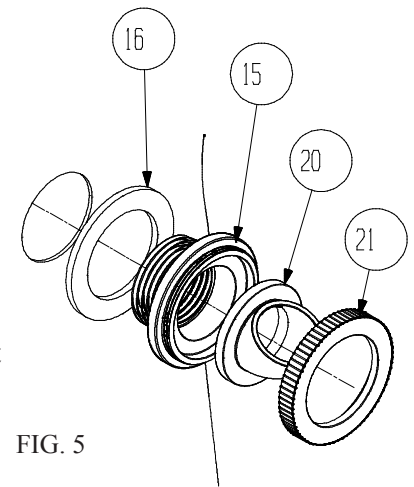

FIG. 5
1. **DIVERTER FITTING USE;** diverts direction of return water entering the pool, see part #20 FIG.5. You can adjust the fitting by loosening the LOCKING RING see part # 21 FIG 5. The DIVERTER FITTING can be used to help generate clockwise rotation of the pools water toward the SKIMMER intake opening area of your pools wall. To do so slightly loosen the LOCKING RING and rotate the DIVERTER FITTING upward pushing water horizontally under the waters surface pointing away from the SKIMMER Intake area. DO NOT POINT it directly toward the SKIMMER this will deeply decrease skimming and filtration. Tighten the LOCKING RING to hold the DIVERTER FITTING in the desired position you choose. You can position the DIVERTER FITTING downward later to assist in keeping sediment from building along the bottom of your pool.